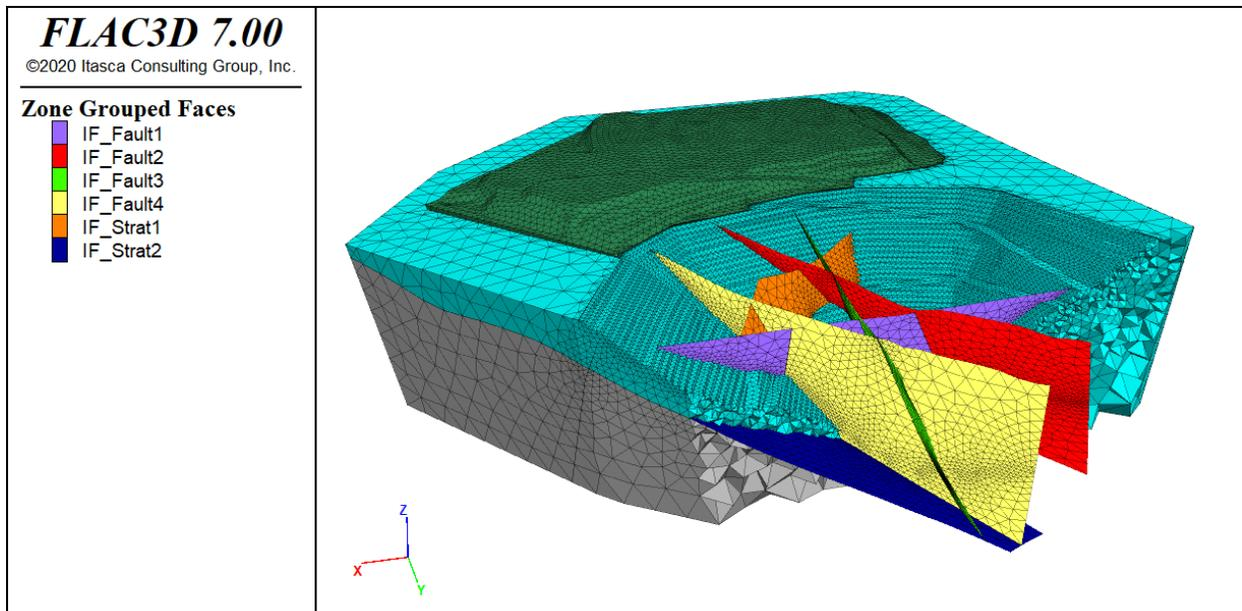

Figure 90: Tetrahedral volume mesh of open pit mine model.
37. Create a tetrahedral volume mesh in *FLAC3D* binary format. Keep all other ***GVol*** parameters at default values. Tetrahedral volume mesh generation is usually a fast process⁸, and it is used here. In case *Griddle* issues a message about the presence of naked edges, read the message and press **Yes** to continue. The final mesh is shown in Figure 90.